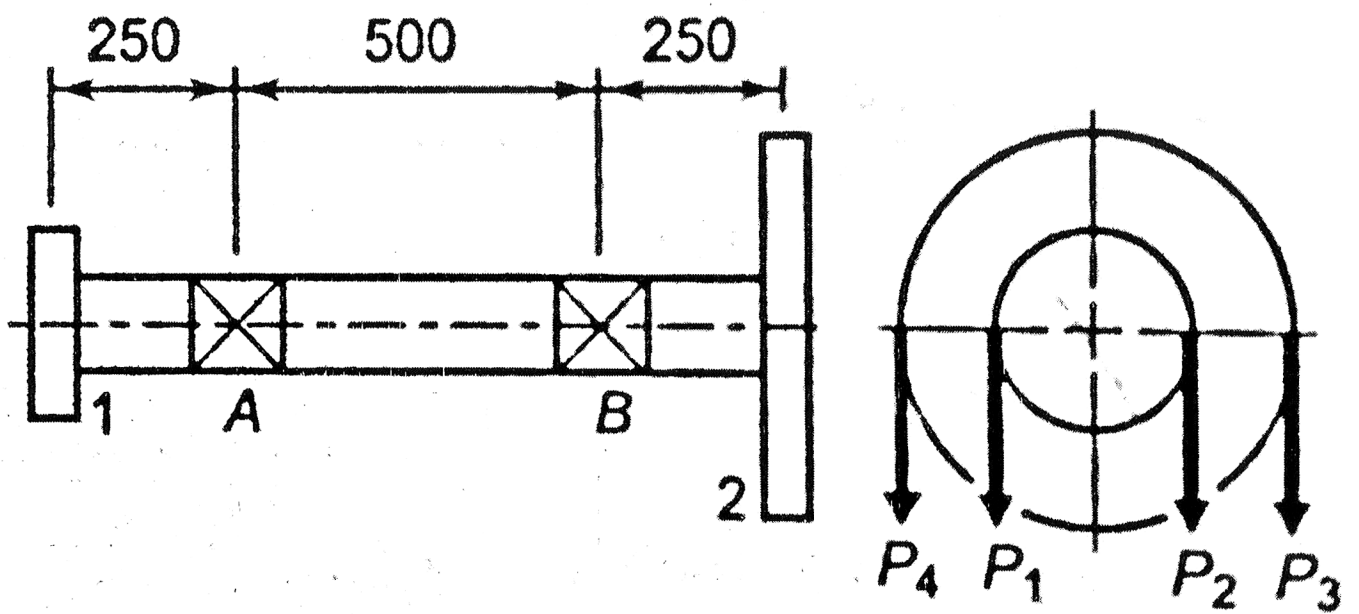

Fig. 1
- g. Find relation between leg and throat of fillet weld. (2)
- h. What is efficiency of Riveted Joint ? (4)
- i. What is Gib head taper Sunk key ? How much taper is provided ? Give complete sketch. (4)
- j. What is Muff coupling ? Give complete sketch. (4)
- k. What is the difference between protected and unprotected Rigid Flange coupling ? Give sketch. (4)
- l. What is the difference between shaft and axle ? Give example. (2)
- m. Write down the formula for determination of shaft diameter using maximum shear stress theory. Define all notations used. (2)
- n. Write down the formula for determination of shaft diameter using maximum principal stress theory. Define all notations used. (2)
- o. Write down the relationship between Power (KW) and Torque (N.m) transmitted by a shaft running at N rpm. (2)
- p. Write down the relation between Torque (KW) transmitted by a shaft and its angle of twist ' Φ ' (degrees), shaft having diameter 'd', length 'l', rigidity modulus 'G'. (4)
2. The layout of a shaft carrying two pulleys 1 and 2 and supported on two bearings, A and B is shown in Fig.1. The shaft transmits 7.5 KW power at 360 rpm from pulley 1 to pulley 2. The diameters of pulley 1 and 2 are 250 mm and 500 mm respectively. The masses of pulley 1 and 2 are 10 Kg and 30 Kg respectively. The belt tensions act vertically downward and ratio of belt tensions on tight to slack side for each pulley is 2.5 : 1. The shaft is made of plain carbon steel 40C8 having yield tensile stress $S_{yt}=380 \text{ N/mm}^2$ and the factor of safety is 3. Estimate suitable diameter of the shaft. (30)